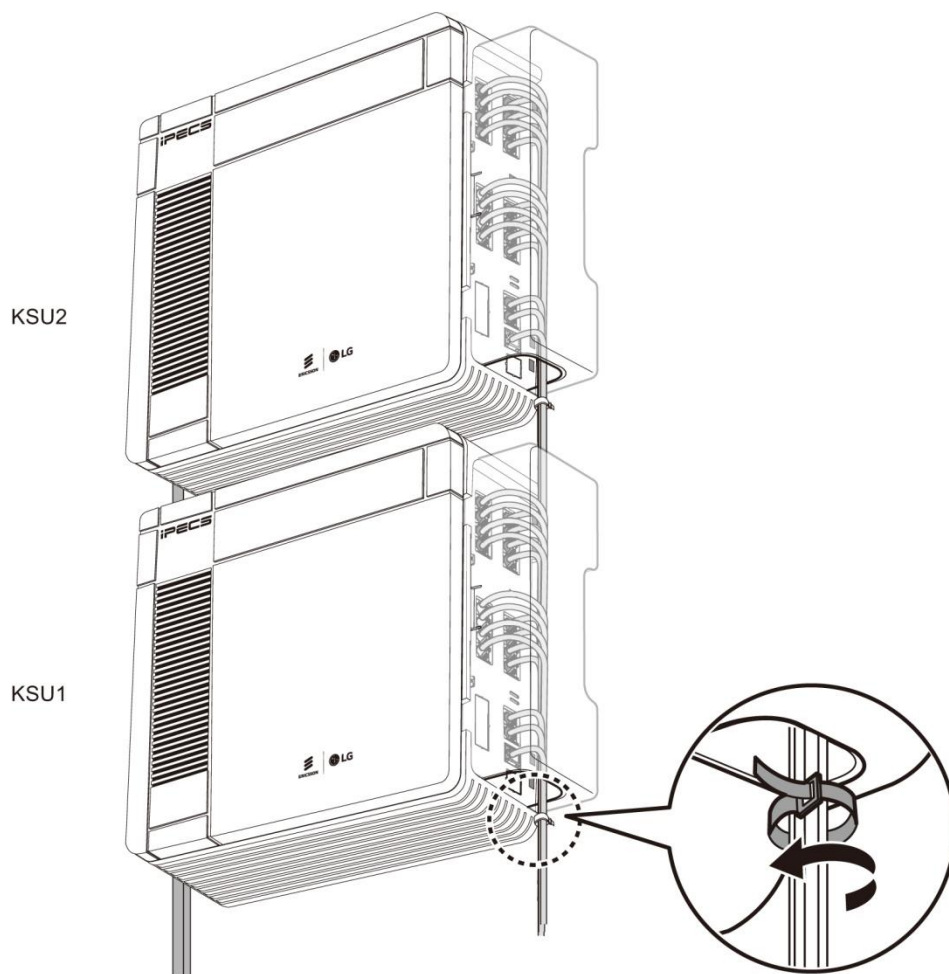

Figure 6.5.1 Dressing the Wall Mount Wiring
- 3) Using the supplied cable ties, tie all wiring to the slot at the bottom-right side of the KSUs as shown in Figure 6.5.1.